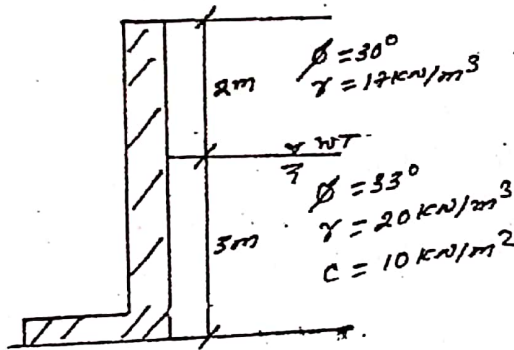

Fig. 1
- (b) Determine Rankine's active pressure per unit length of the wall [fig 1]. Water table is at level 3m from base of the wall. 8